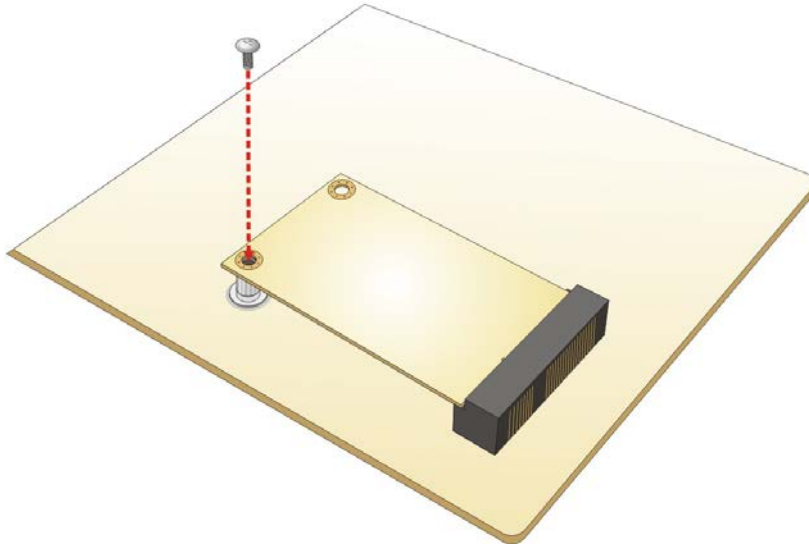

Figure 3-8: Securing the Full-size PCIe Mini Card
Step 5: Secure the full-size PCIe Mini card with the retention screw previously removed (**Figure 3-8**).